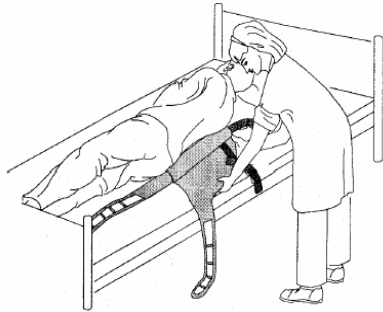

Figure 1 - Positioning the Sling for Patient in Bed
3. Lay the sling, handles down, behind the patient and roll the sling in half (Figure 1).